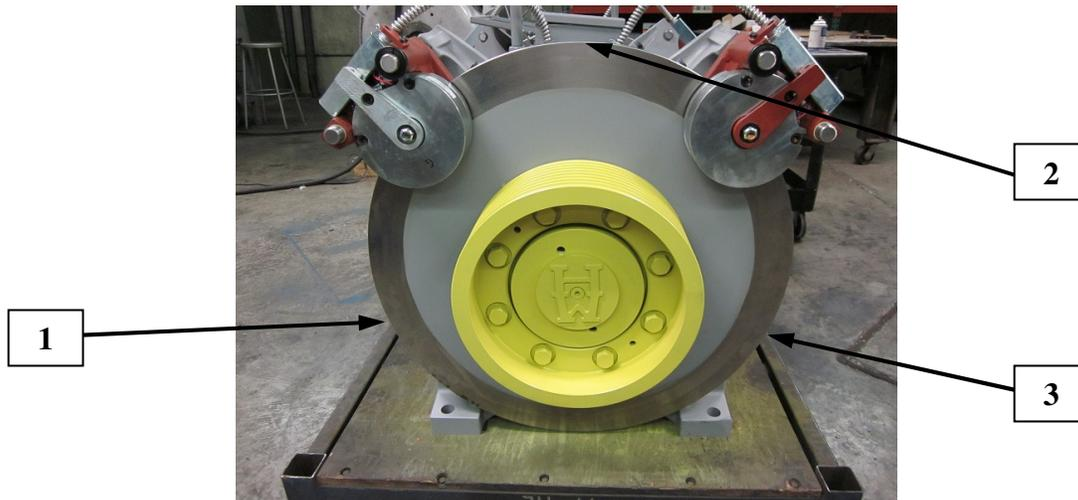
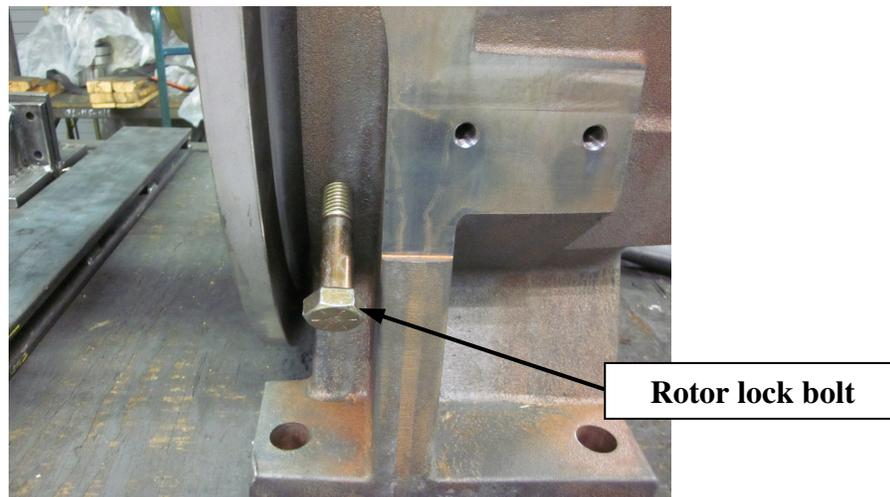

Figure 2
Figure 3
- To begin the shaft and bearing replacement, first, install the rotor lock bolts. Install 3 bolts into the body of the machine using the holes where the traction sheave guard brackets were mounted. Tighten all 3 bolts firmly against the rotor to help prevent the rotor from moving during the maintenance period. Refer to Figure 2 for the general bolt hole locations and Figure 3 for a general picture of a rotor lock bolt in place.